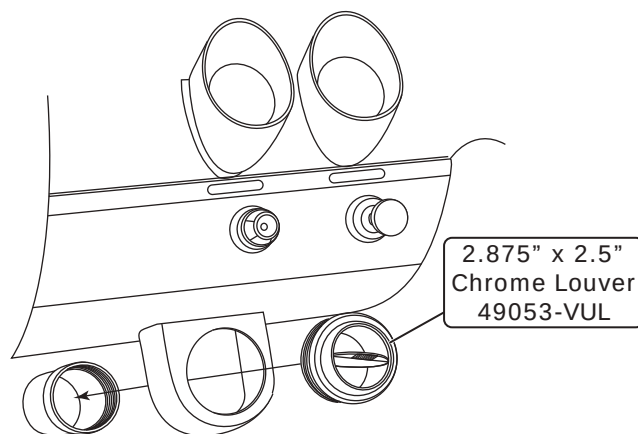

Figure 1a
3. Install the louver into the housing as shown in Figure 1a, below.